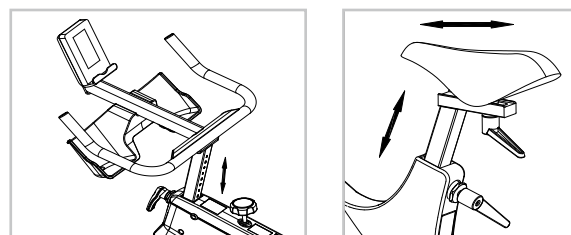

FIGURE 3
Before exercise, adjust position of the handle and seat according to your height. Rotate the adjustment handle to loosen parts in a counterclockwise direction. Rotate the adjustment handle in the clockwise direction to fix parts. The seat and handle can be adjusted in the direction shown in Figure 3.
1. When POWER ON or hold RESET key for 2s, buzzer will sound 1s and LCD full display for 2 seconds (Figure1). Then display wheel diameter and unit for 1s (Figure2). Then go to Standby mode (Figure3). And the motor has been settled, it must be reversed to zero, then go to LOAD=1 to wait for each setting.
2. Enter (Figure3) screen to select the sport mode, selection order MANUAL -> BEGINNER -> ADVANCE -> SPORTY -> CARDIO -> WATT etc sport modes (recyclable).